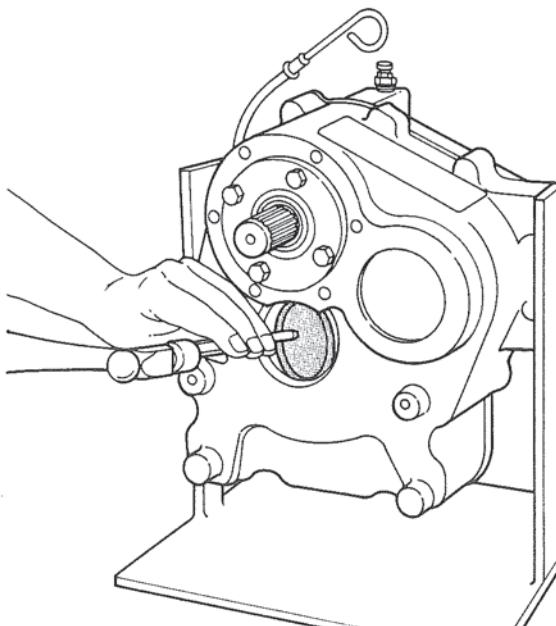

Figure 12. Removing Expansion Plug.
8. **Expansion Plug.** Use a punch and remove the output shaft, front bearing bore, expansion plug. Figure 12.